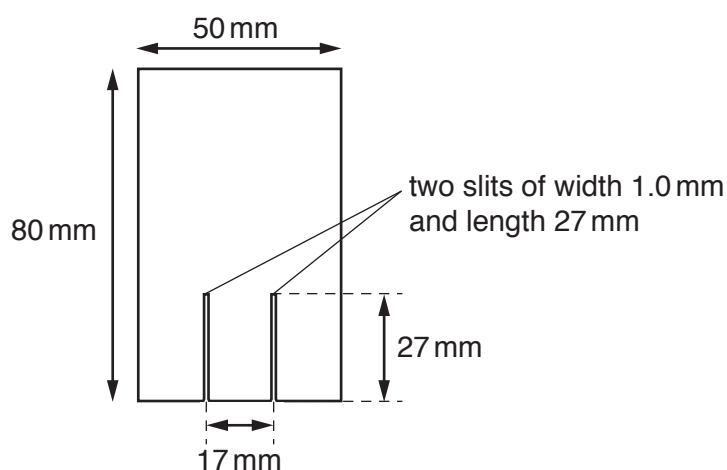

Fig. 4.2
3. A slit plate may be found in a ray box kit if one is available, but it must have the dimensions shown in Fig. 4.2. Alternatively, the plate should be cut from a piece of rigid card into a rectangle of length 80 mm and width 50 mm. Slits of width 1.0 mm and length 27 mm should be cut into the card 17 mm apart, as shown in Fig. 4.2.